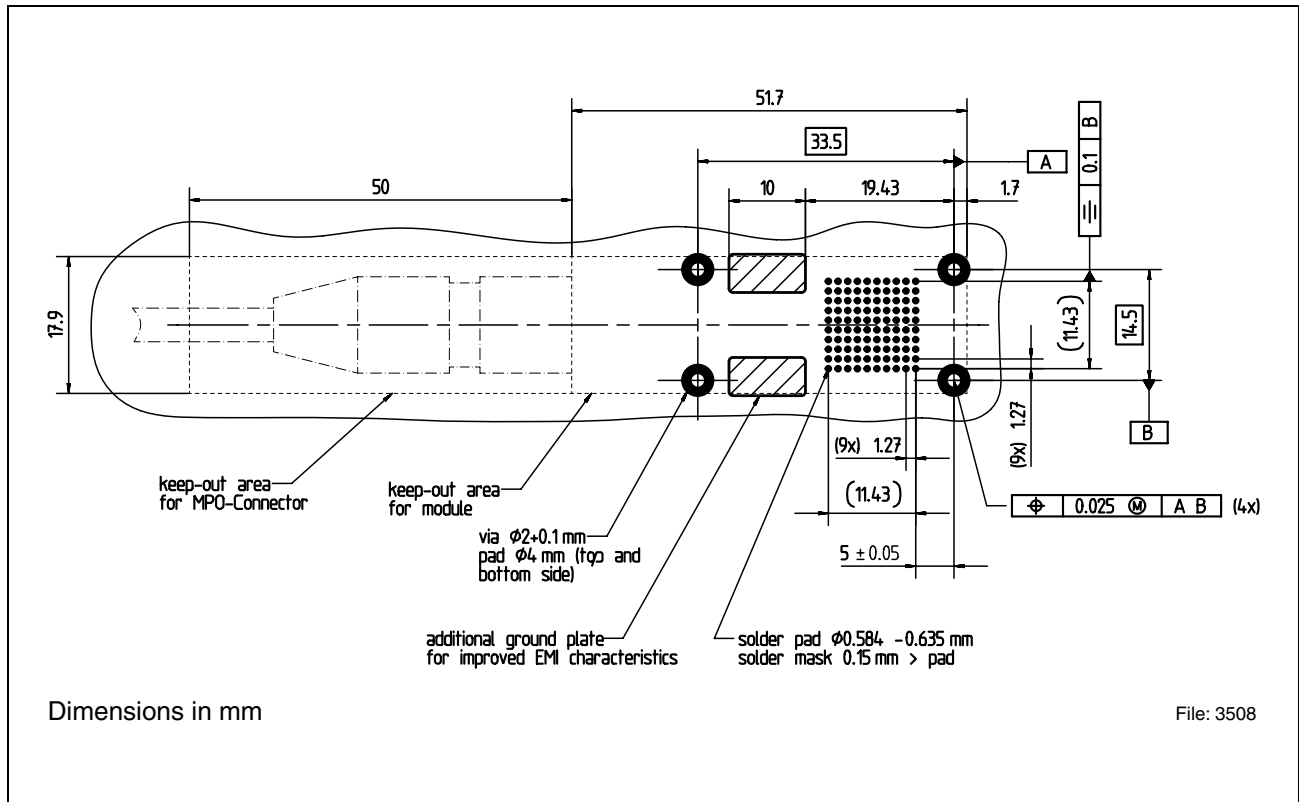

Figure 17 PCB Layout
1. **Figure 17** describes the recommended customer board layout for the PAROLI 2 modules.
8. The dashed lines in **Figure 17** indicate the typical keep out area for straight MPO connectors as well as for the module MPO receptacle in case of central board placement of the module.